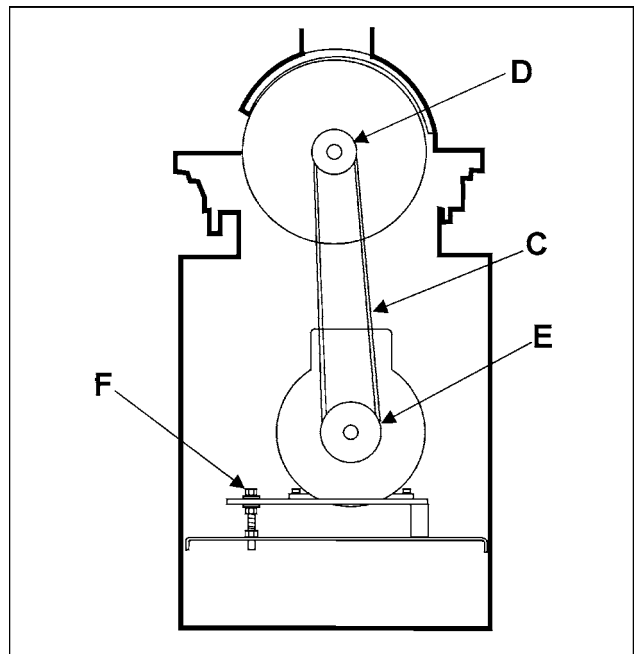

FIGURE 4
3. The drive belt (C) is already mounted on the drive sheave (D) behind the disc, as shown in Figure 4. However, it should be checked to ensure that it is in the sheave groove.
4. Position the belt (C) around the motor sheave (E) and tension the belt by adjusting the nuts (F) on the tensioning screw.